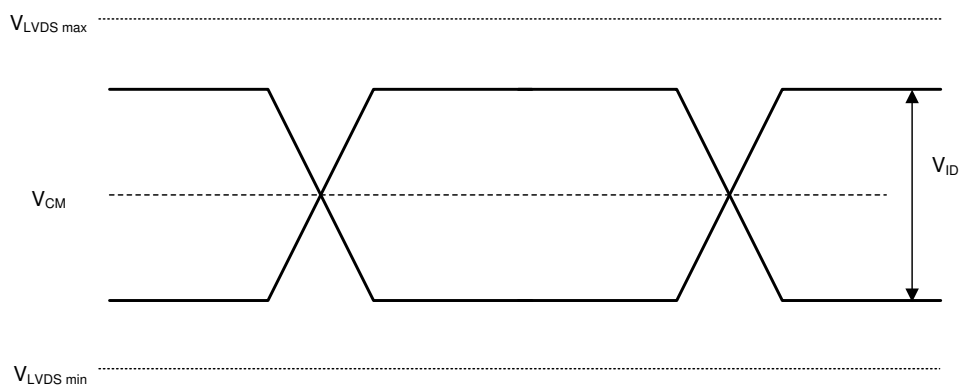

Figure 6-5. LVDS Waveform Parameters
(1) All voltages are referenced to common ground V_{SS}. V_{DD}, V_{DDI}, and V_{CC2} power supplies are all required for proper DMD operation. V_{SS} must also be connected.
(2) V_{CC2} supply transients must fall within specified max voltages.
- (3) To prevent excess current, the supply voltage delta $|V_{DDI} - V_{DD}|$ must be less than the specified limit. See the DMD Power Supply Requirements.
- (4) PWRDNZ input pin resets the SCP and disables the LVDS receivers. The PWRDNZ input pin overrides the SCPENZ input pin and tristates the SCPDO output pin.
- (5) See LVDS clock timing requirements in Timing Requirements.
- (6) See Figure 6-5 for the LVDS waveform requirements.
- (7) Simultaneous exposure of the DMD to the maximum Recommend Operating Conditions for temperature and UV illumination reduces device lifetime.